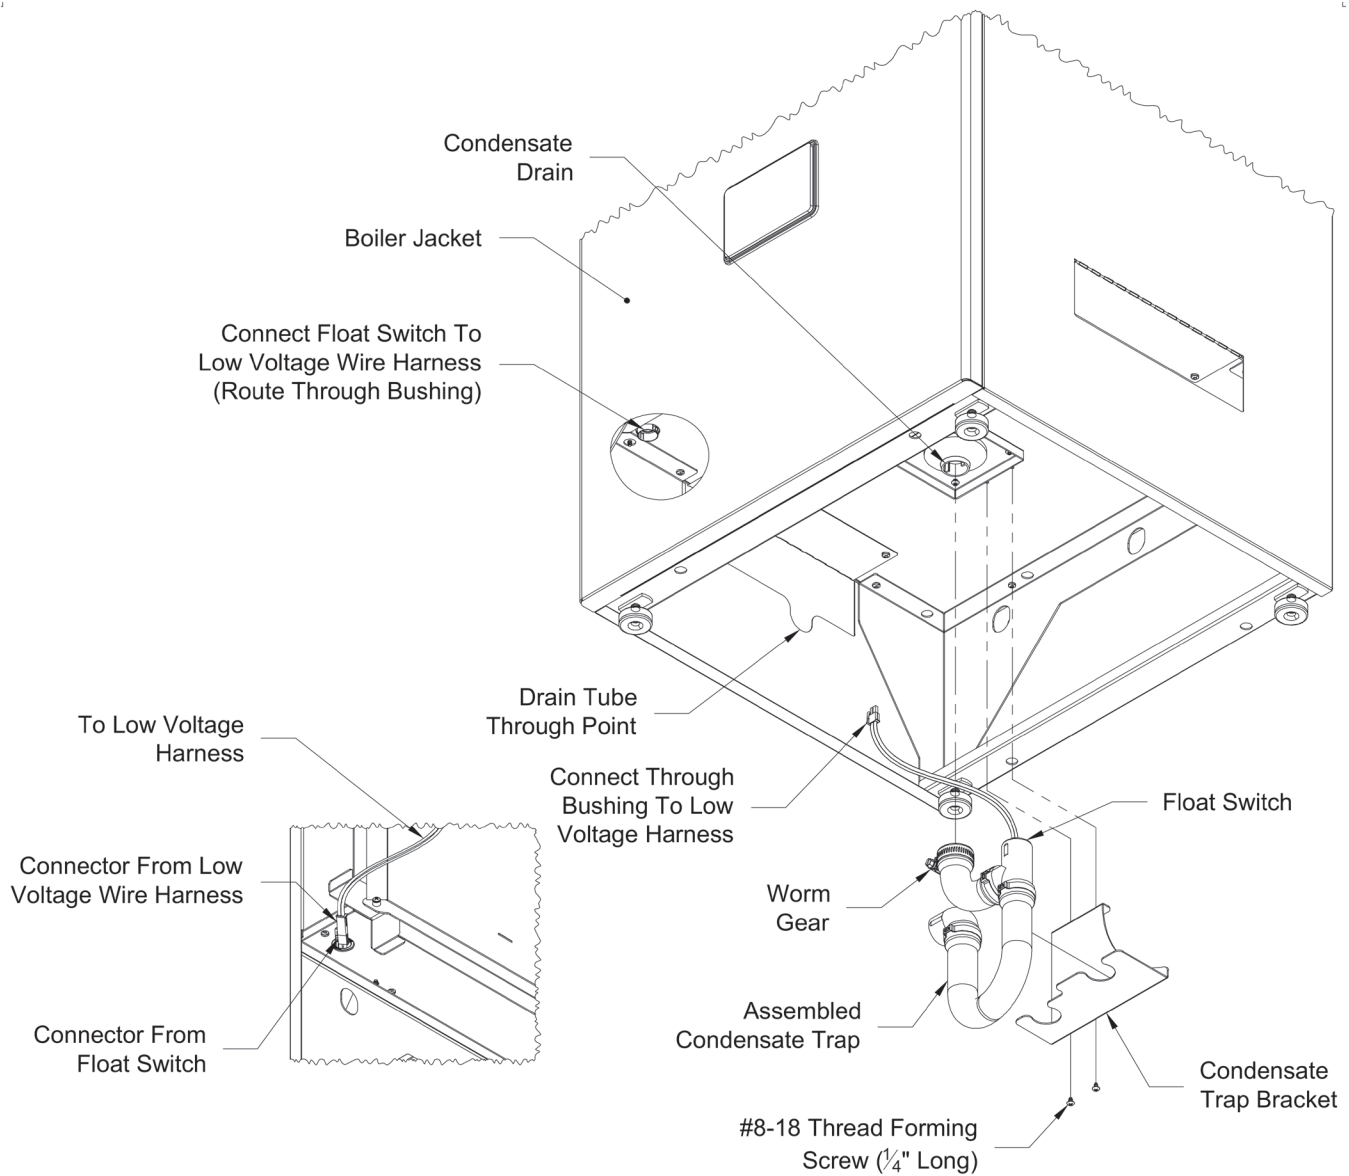

Figure 7.47: Float Switch Connection to Wire Harness
3. Press flexible pipe into designated slots on bracket. Feed connector at end of float switch, through knockout (bushing supplied for protection) and connect to wire harness (bottom left of control) Figure 7.47.